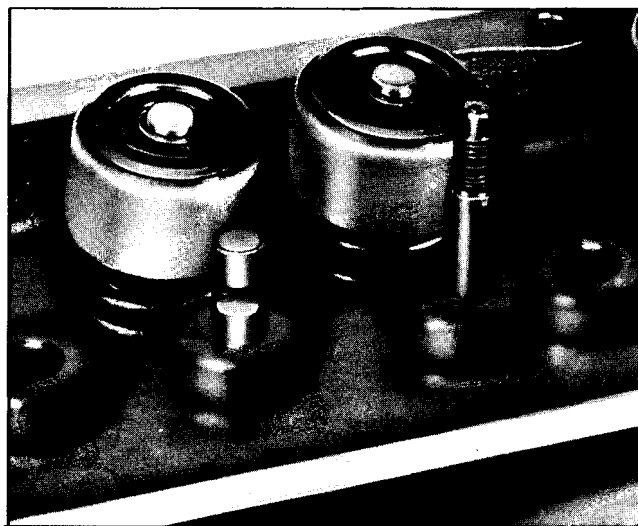

Fig. 6-111 Slots for Removing Rocker Arm Stud
- a. With rocker arm removed, file two slots $3/32"$ to $1/8"$ deep on opposite sides of rocker arm stud (Fig. 6-111).